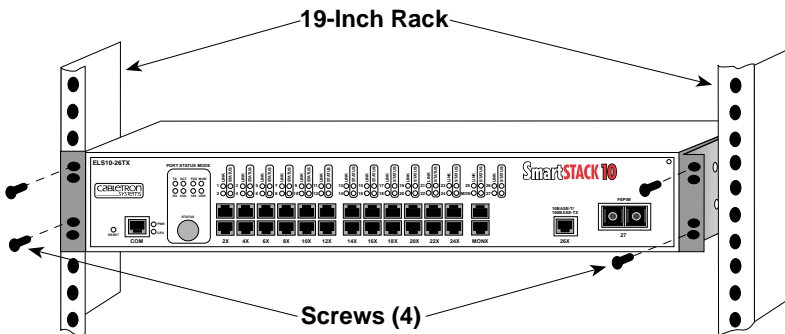

Figure 2-4. Rack-mounting the ELS10-26
3. Secure the ELS10-26 with the rackmount fasteners by inserting and securing a fastener through each of the four slots in the rack-mount brackets, as shown in Figure 2-4.